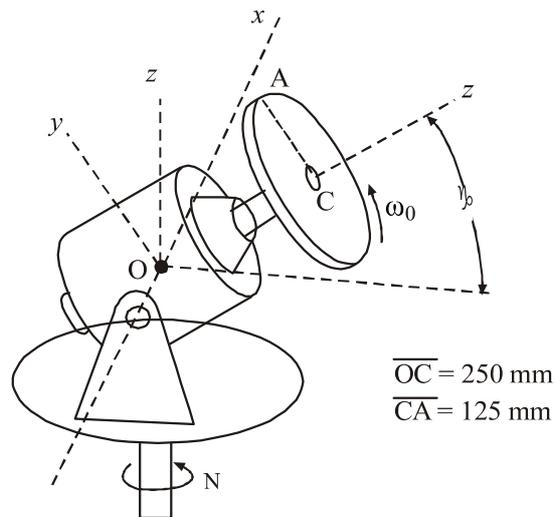

FIG.6
18. The electric motor with an attached disk is running at a constant low speed of 120 rpm in the direction as shown in Fig. 6. Its housing and mounting base are initially at rest. The entire assembly is next set in rotation about the vertical Z-axis at the constant rate $N = 60$ rpm with a fixed angle $\gamma = 30^\circ$. Determine : a) the angular velocity and angular acceleration of the disk, b) the space and body cone, and c) the velocity and acceleration of point A at the top of the disk for the instant shown in the figure 6.